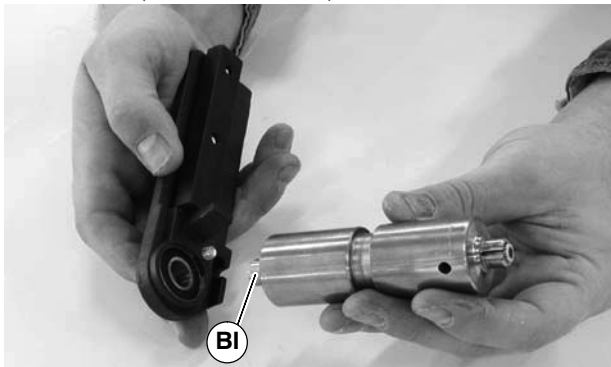

Figure 48
2. With bearing installed in head plate, slide bearing on to shaft (BI of Figure 48) of pulley.